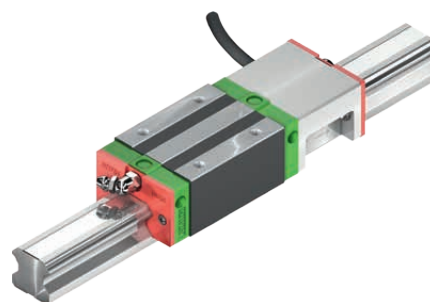

Fig. 7.3 Linear quideway with MAGIC-PG system
For this type, the positioning measuring system is integrated in a linear guideway. The complete unit is referred to as a positioning guideway (PG). The encoder is fitted to a standard block. It is suitable for HG-20, HG-25, QH-20 and QH-25. A magnetic scale is integrated directly in a profile rail (see Fig. 7.3).